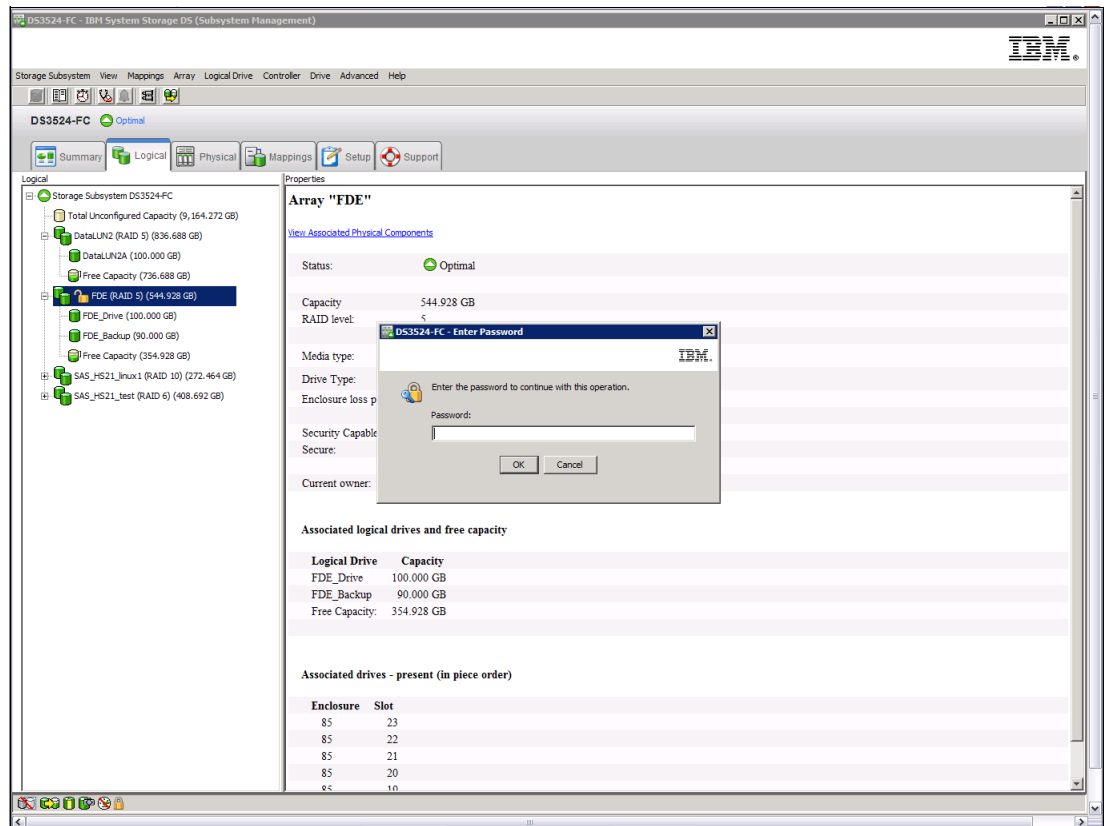

Figure 15-10 Enter your password to continue with the creation of the security key
2. Enter the password as shown in Figure 15-10 on page 450.